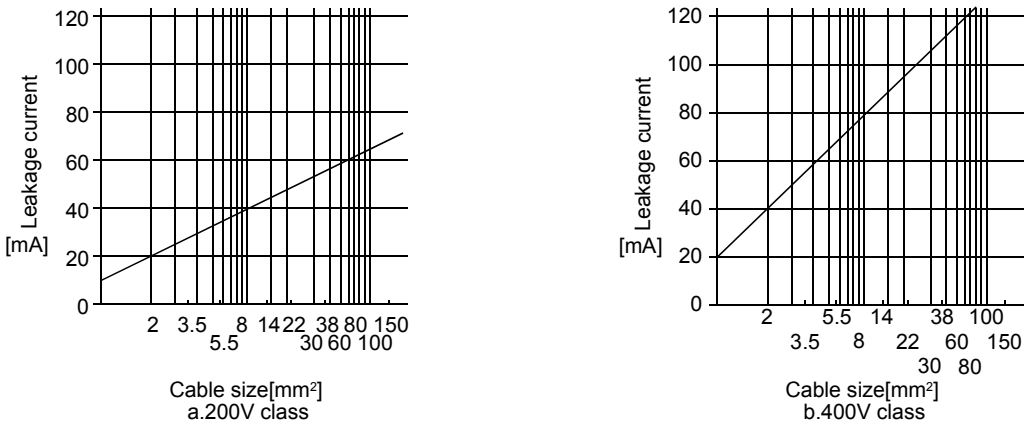

Fig. 12.3 Leakage current example (Ig1, Ig2) for CV cable run in metal conduit
- Ig1: Leakage current on the electric channel from the leakage current breaker to the input terminals of the servo amplifier (Found from Fig. 12.3.)
- Ig2: Leakage current on the electric channel from the output terminals of the servo amplifier to the servo motor (Found from Fig. 12.3.)